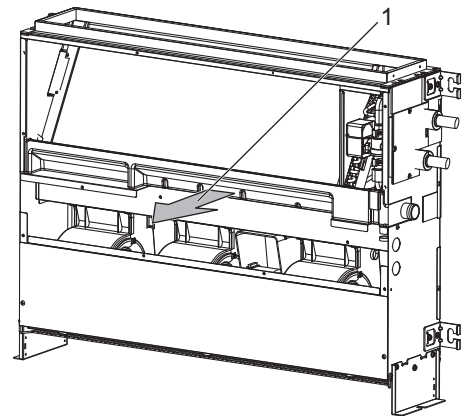

Fig.6
- (1) Pull out the drain pan in the direction of the arrow 1. (Fig. 6)